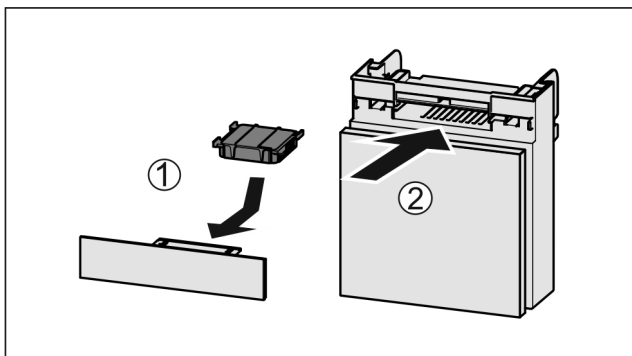

Fig. 112
- ▶ Insert the carbon filter as shown in the diagram Fig. 112 (1).
- ▶ Push the compartment in Fig. 112 (2).